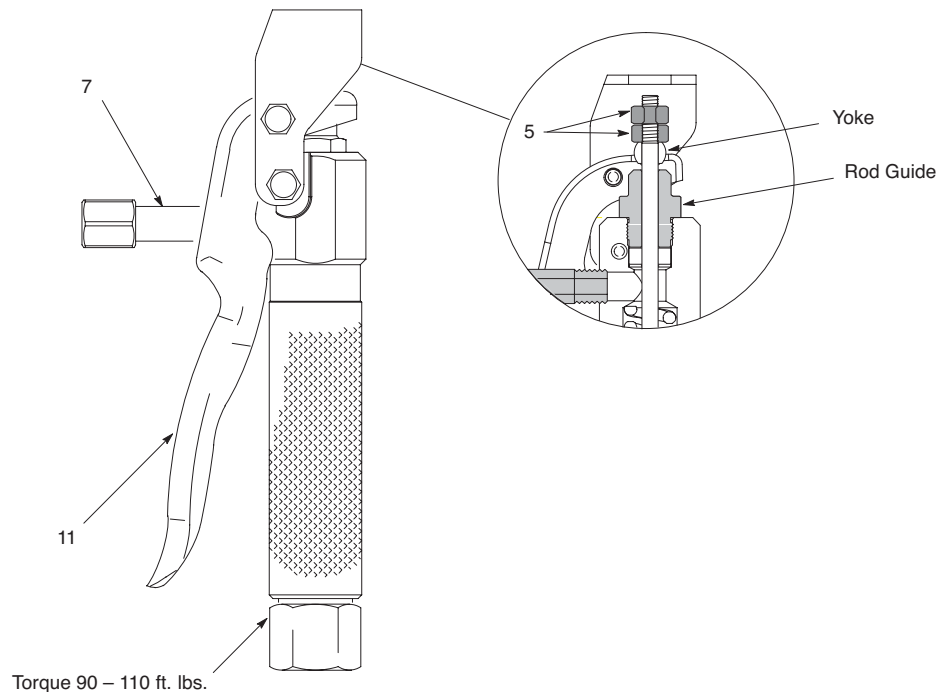

FIG. 1
2. To adjust the clearance, loosen the top nut (5, Fig 1) and turn the bottom nut (5) in or out as needed. To increase grease flow turn bottom nut in. To reduce grease flow turn bottom nut out. Hold the bottom nut in place and securely tight the top nut.
12. With trigger in free position tighten bottom nut (5) until yoke bottoms out on rod guide (this is the maximum flow setting. (FIG. 1) Back off nut approximately 1/8 turn. Hold bottom nut in place and securely tighten top nut.